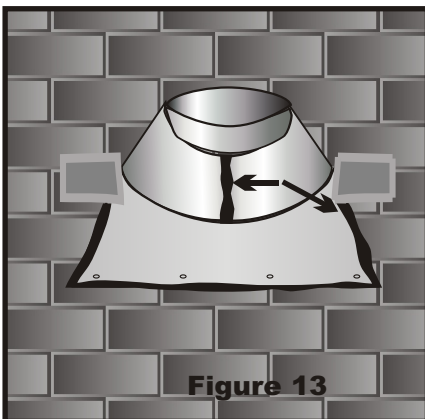

Figure 13
9. Return to the roof with the clear acrylic dome and the pile strip seal. (**Fig 13**). Caulk around the flashing where it meets the roofing. Pull the protective film down from the pipe about half way down the pipe. Remove the paper back from the pile strip and place the pile strip around the top of the flashing (**Fig 14A**). Place the clear dome over the top of the flashing taking care not to pull the pile away from the flashing (**Fig 14B**). Now lift any shingle tabs that are loose and place a small bead of caulk along the bottom edge of the shingle to secure the shingle together and to the flashing. Caulk each screw head. Now you are finished on the roof.